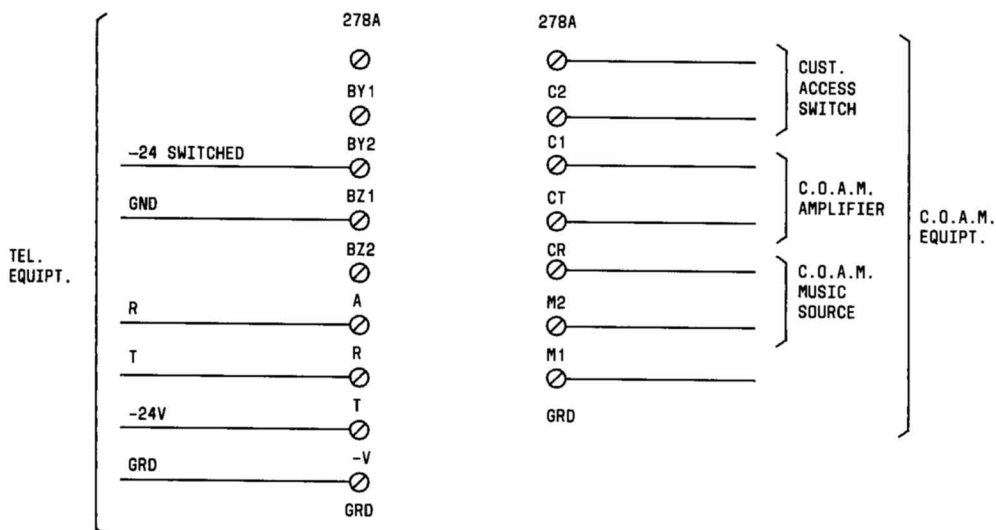

Fig. 5—Connections for 6B Intercom System (DIALOG)
3.05 Connections between the 278A adapter and the 68 intercom system (DIALOG) is shown in Fig. 5.